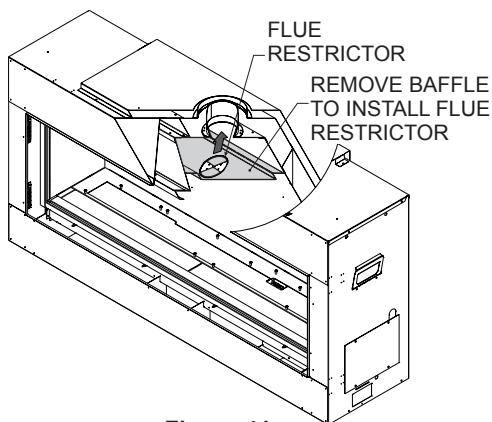

Figure 41
For installation of the restrictor after the venting is installed, remove (2) screws from each end of the flue baffle and set aside. Insert the restrictor up into the flue collar and position it as shown in **Figures 41 and 42**. Then, re-install the flue baffle.